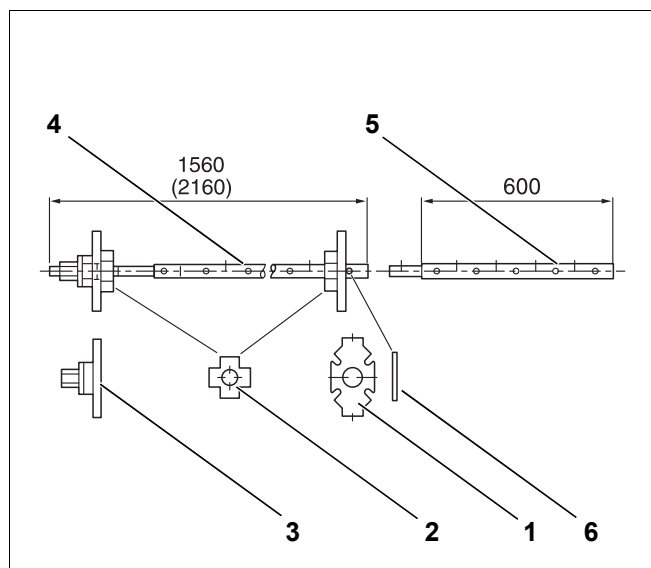
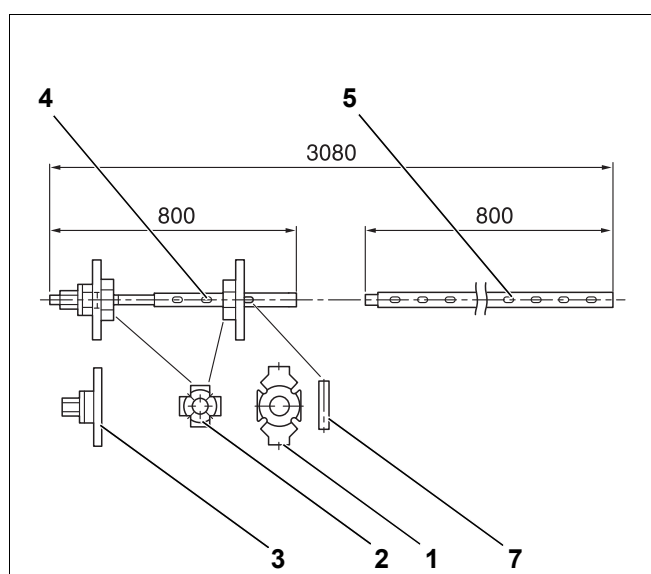

Fig. 1 Boiler compression tool size 2.2
Fig. 2 Boiler compression tool size 2.3
- Boiler tensioning tool 2.2 (→ Fig. 1) or 2.3 (→ Fig. 2)
Legend for (Fig. 1) and (Fig. 2):
To assist boiler room tidiness the boiler should be placed on a plinth 5 – 10 cm high (→ Fig. 1, [1]). The plinth must be perfectly flat and level. The front edge of the boiler should be flush with the edge of the plinth.